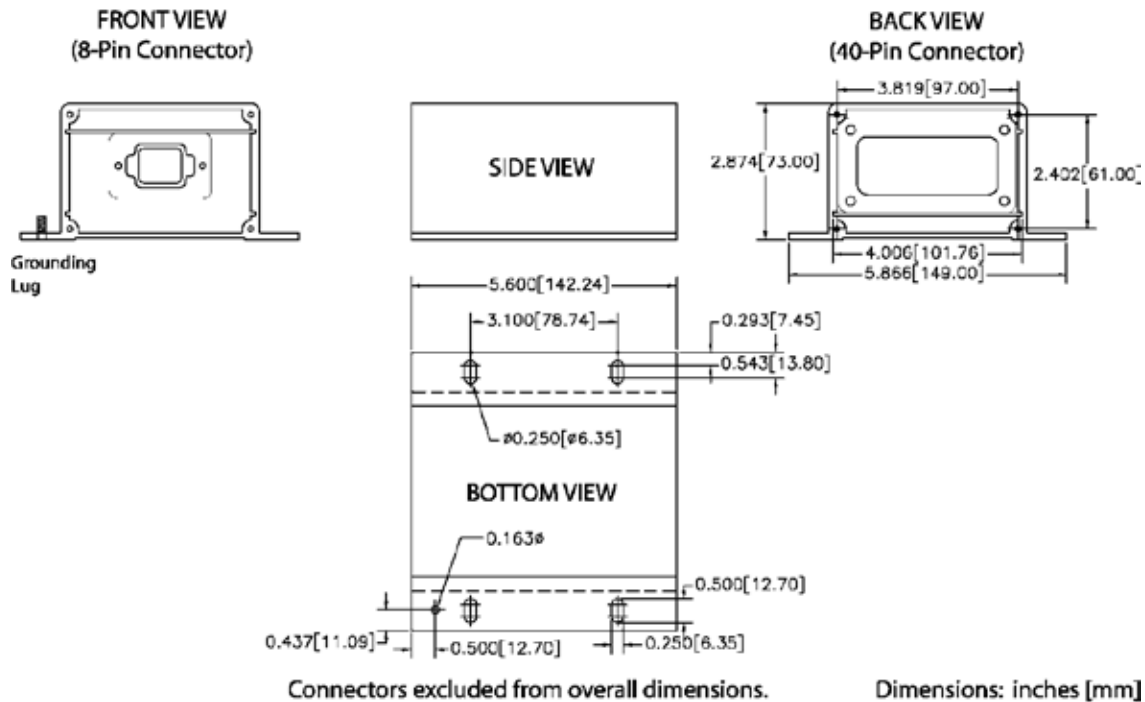

Figure 26.7 – Thermocouple, RTD, and Discrete I/O Module Physical Layout
- Compact size (see mechanical drawing, Figure 26.7).